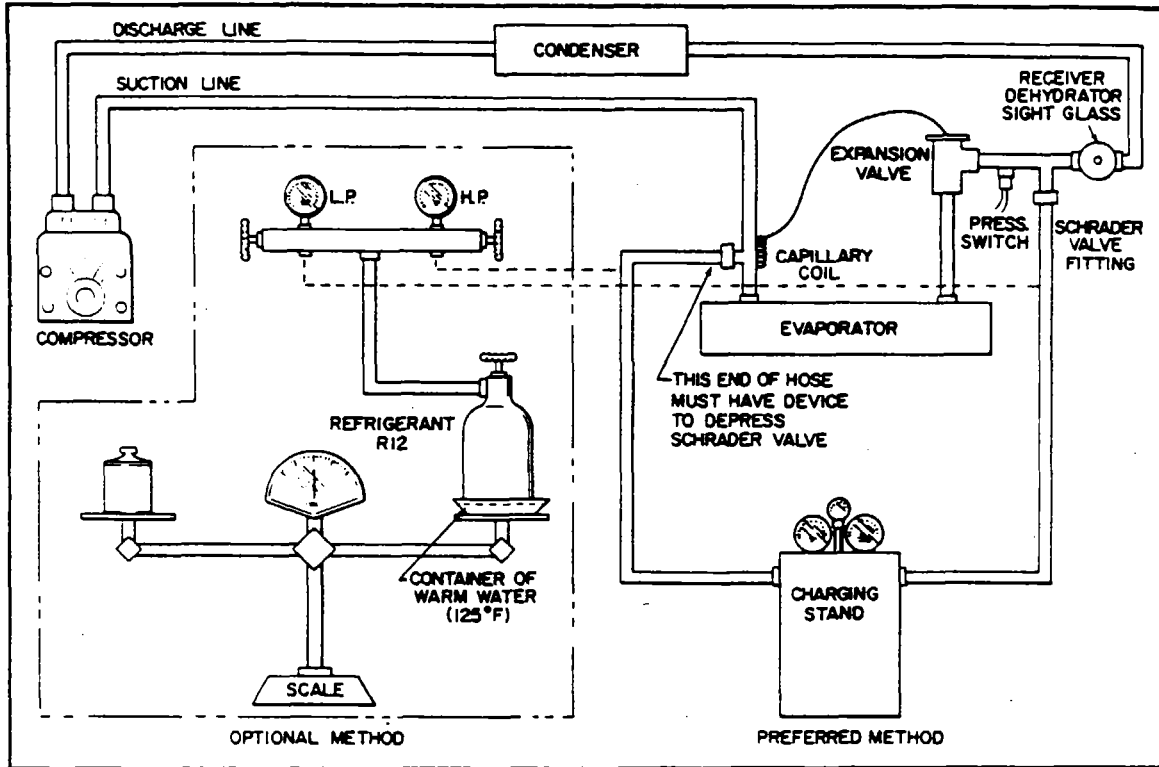

Figure 14-8. Charging Hookup
- a. With the system discharged and evacuated, proceed to hook-up the charging stand. (Refer to Figure 14-8.)
- a. With the system evacuated as outlined in paragraph 14-13, connect the refrigerant charging hose to the manifold (refer to Figure 14-8) and purge the charging hose of air.
- b. Connect a charging hose to a refrigerant cylinder and also to the Schrader valve fitting on the suction line. (Refer to Figure 14-8.)